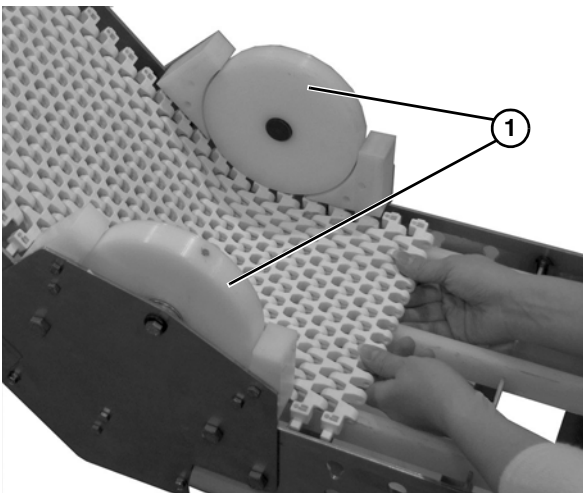

Figure 28
7. For Z-Frame conveyors, guide the belt under the hold down guides (**Figure 28, item 1**) in the lower knuckle.